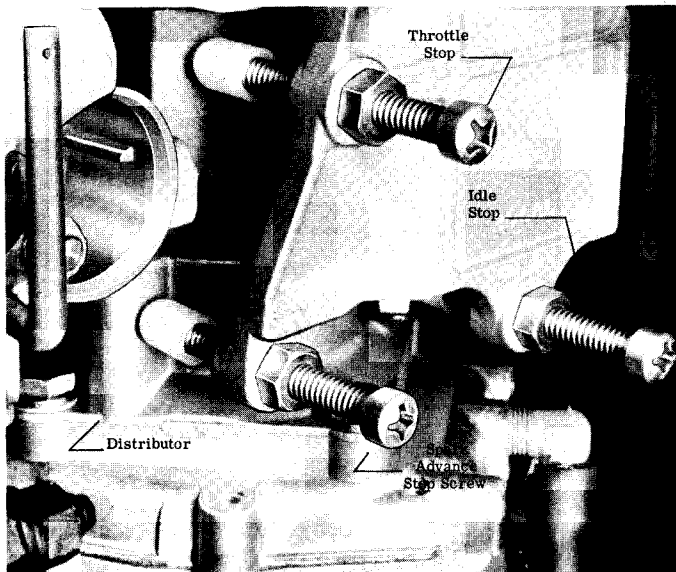

Figure 4. Spark Advance Adjustment
11. Retard distributor against "idle speed" stop screw. (Figure 4)